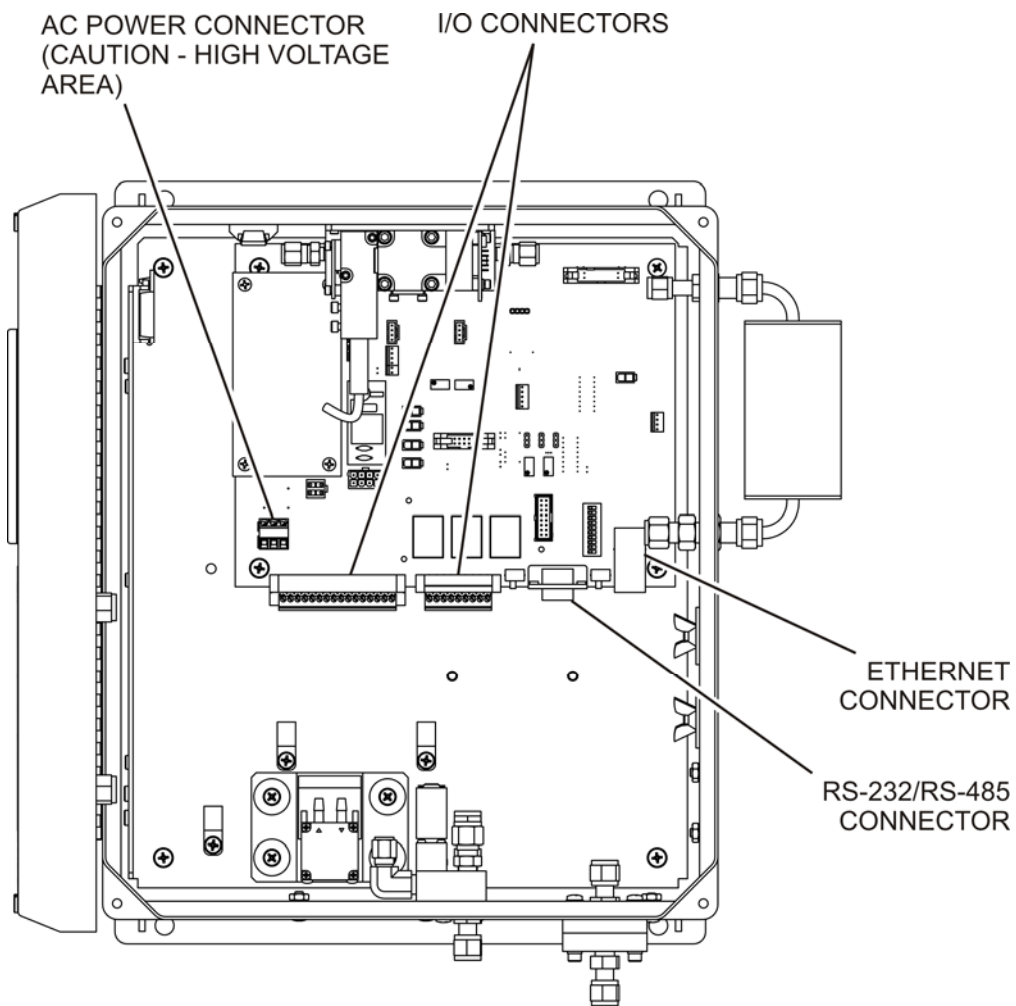

Figure 4-6: NEMA Electrical I/O Connections
2. Attach the leads of the power line to the AC power connector (see Figure 4-6).
In the NEMA configuration of the M465M, the I/O connectors are located internally in the instrument. See Figure 4-6 for their location. Connection to these terminals is usually made via a conduit connection to the NEMA enclosure. A standard conduit penetration may be added to one of the walls of the enclosure for this purpose, or the existing penetration may be used.